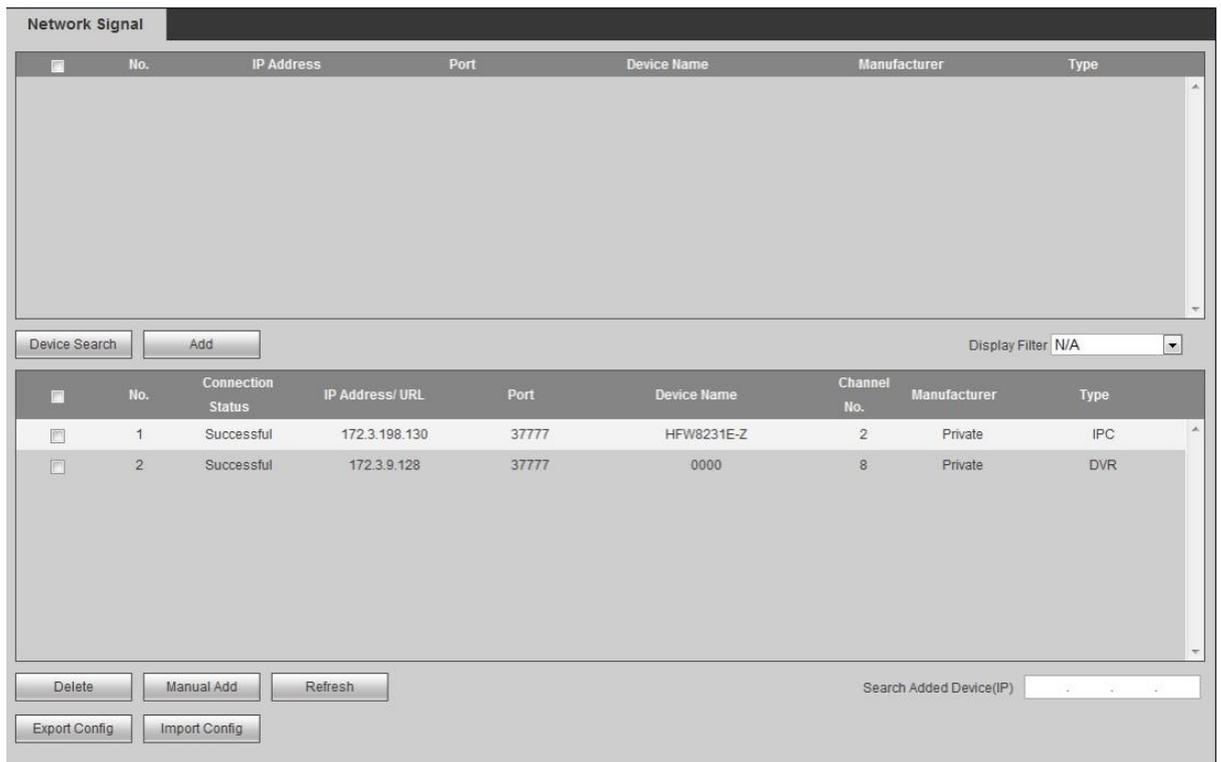

Figure 3-11
Step 1 Click . The system displays “Network Signal” interface, as shown in Figure 3-11.